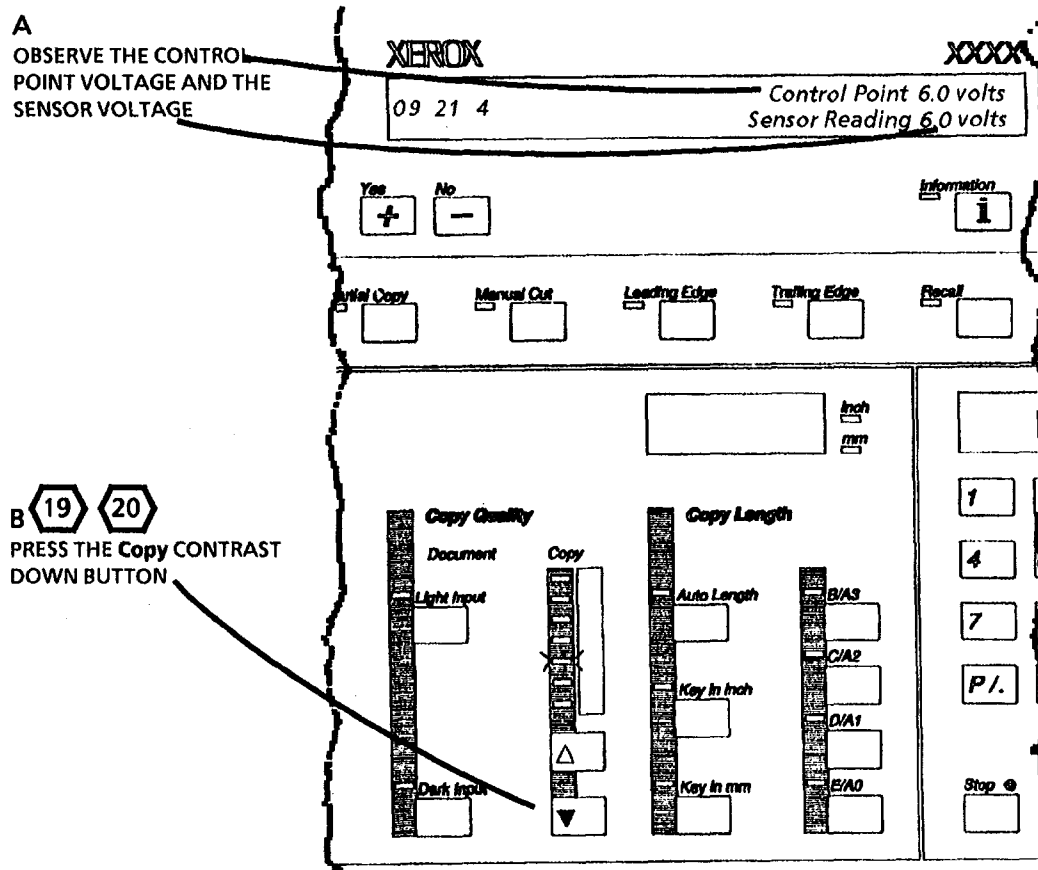

Figure 8. Adjust the Control Point
27. (Figure 8): Adjust the Control Point to read as close as possible to the Sensor Reading.